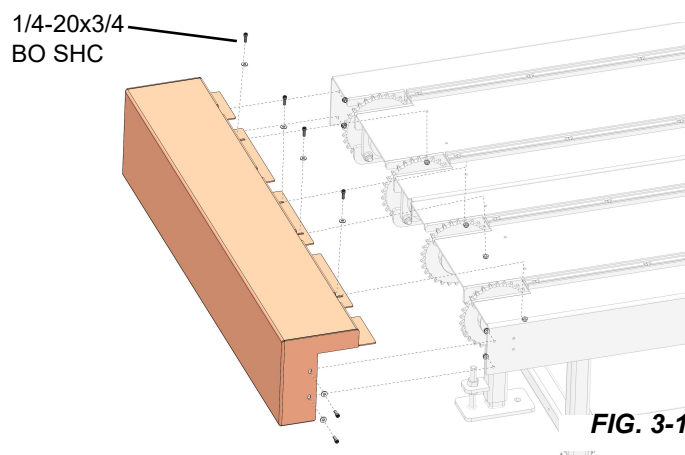

FIG. 3-13
4. Install the sprocket cover as shown in FIG. 3-13.